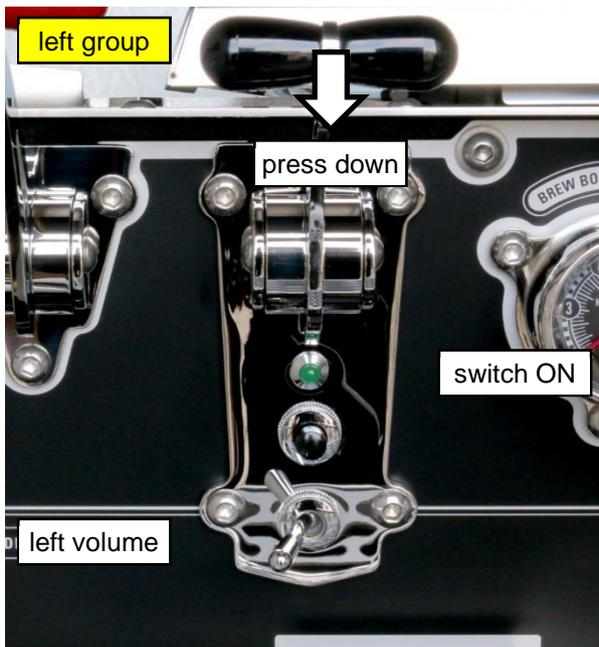

Figure 7. The toggle switch under the left hand brew lever is positioned to the left.
2. Make sure that the toggle switch under the left hand group is in the left position (see Figure 7).